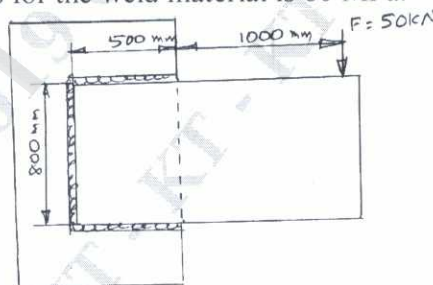

Fig. Q7 (b)
b. Determine the size of the fillet weld required for the flat plate loaded as shown in Fig. Q7 (b). Allowable stress for the weld material is 60 MPa. (10 Marks)